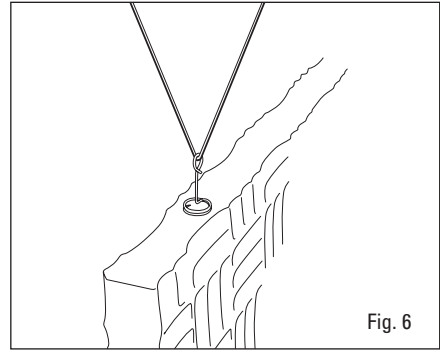
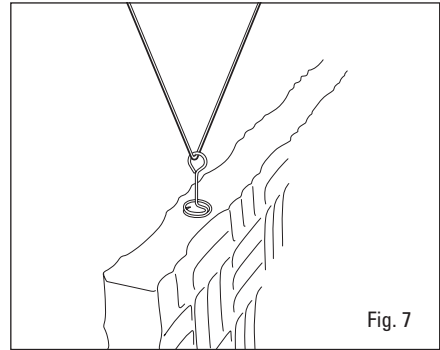

Fig. 6
Fig. 7
- C3. If installing SONEX® Valueline or WHISPERWAVE Baffles, slip the eye loop of the corkscrew over the cable (Figure 6). Turn the eye loops approximately 1/4 turn counterclockwise so the eye loop is perpendicular to the baffle, locking the cable in place (Figure 7).